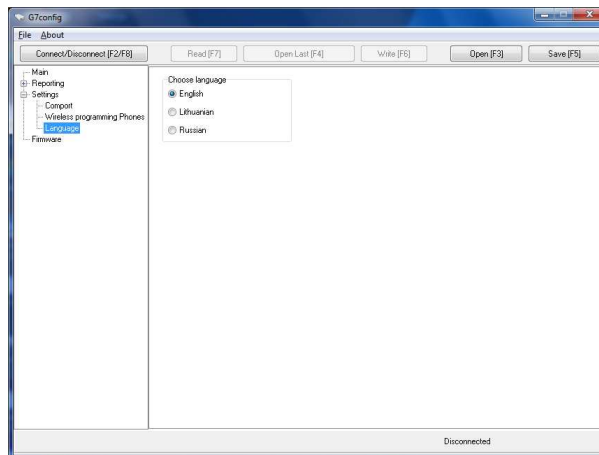

Figure5 View of window Language
- 7.1.3 Choose the dialog language in the window **Main/Settings/Language** (see *Figure 5*).